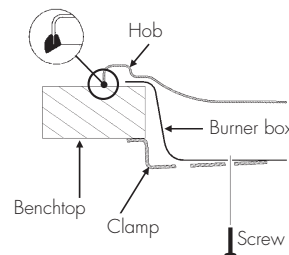

Fig. 1B
3. **A rubber seal** – has been provided for only. This is to be applied around the edge of the hob (Fig. 1B).
4. **Pull down clamps** – (Square cooktops) are supplied. When the appliances is in position attach the clamps to the underside of the benchtop and lightly tighten (Fig. 1B).